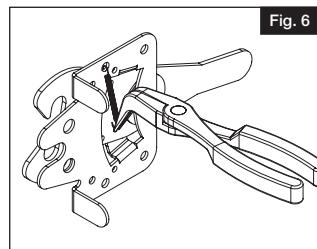

Fig. 6
- b. Carefully remove spring from the post plate and swing arm with small needle-nose pliers, using caution not to bend or break the hooked ends of the spring (Fig. 6).